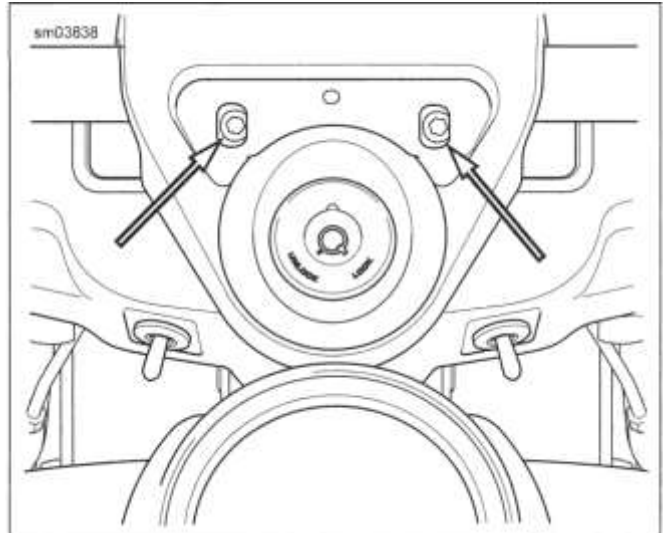

Figure 3-149. Loosen Upper Handlebar Clamp Screws:
- b. See Figure 3-149. Loosen handlebar upper clamp screws.